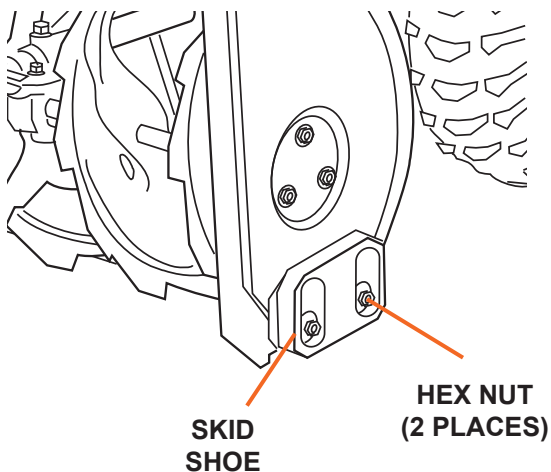

Figure 9
1. Position the skid shoes based on surface conditions. Adjust upward for hard-packed snow. Adjust downward when operating on gravel or crushed rock surfaces. Loosen the two hex nuts that retain the skid shoe in place and move up or down as desired, then retighten the lock nuts (see Figure 9). Repeat for the opposite side of the snow blower.